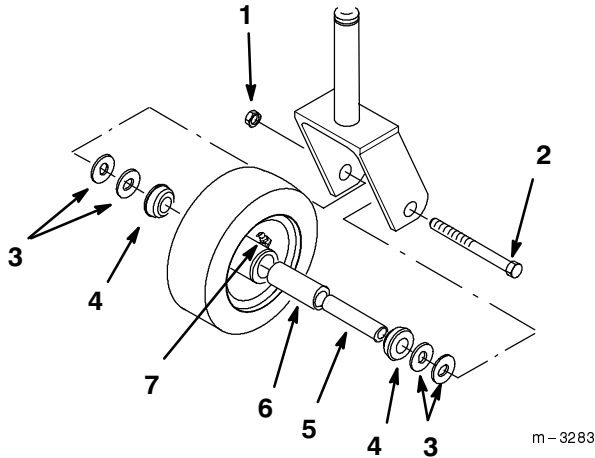

Figure 73
1. Remove the locknut and wheel bolt holding the castor wheel to the castor fork (Fig. 73).
2. Remove the washer and bushing, then pull the spanner bushing and roller bearing out of the wheel hub (Fig. 73).
3. Remove the other bushing from the wheel hub and clean any grease and dirt from the wheel hub (Fig. 73).
4. Inspect the roller bearing, bushings, spanner bushing and inside of the wheel hub for wear. Replace any defective or worn parts (Fig. 73).
5. To assemble, place one (1) bushing into the wheel hub. Grease the roller bearing and spanner bushing and slide them into the wheel hub. Place the second bushing into the wheel hub (Fig. 73).
6. Install the castor wheel into the castor fork and secure with the wheel bolt and locknut. Tighten the locknut until the spanner bushing bottoms against the inside of the castor forks (Fig. 73).